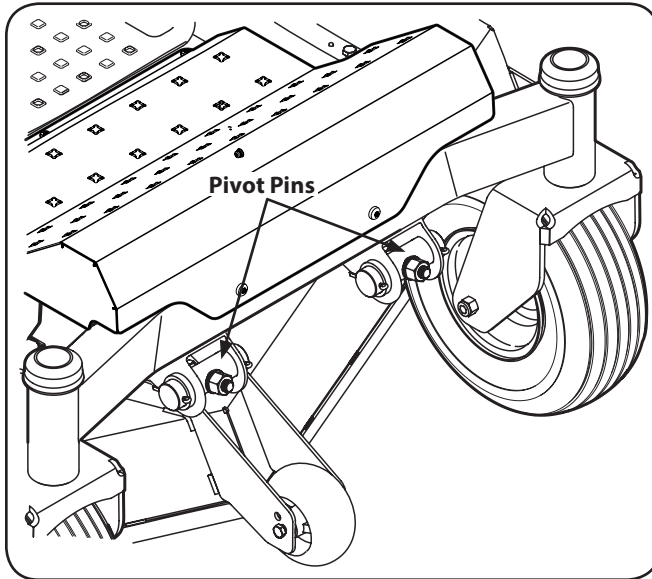

Figure 6-8
- Using a wrench, raise the front of deck by loosening the lock nuts to the front of the pivot pin and then tighten the jam nuts on the back of the pivot pin to raise the front of the deck and secure in place. See Figure 6-8.
- Using a wrench, lower the front of deck by loosening the jam nuts on the back of the pivot pin and then tighten the lock nut on the front of the pivot pin to lower the front of the deck and secure in place. See Figure 6-8.